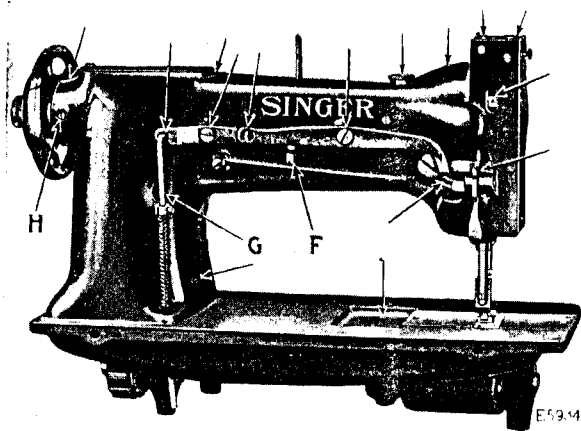
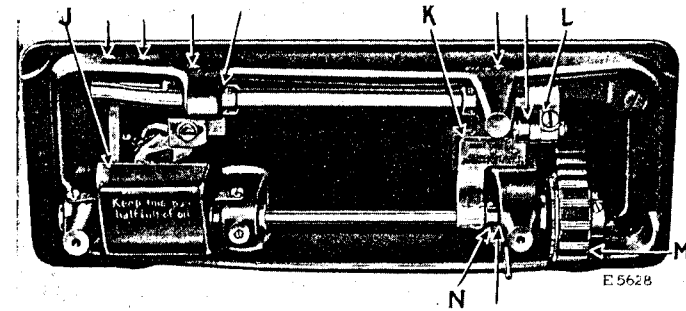

Fig. 14. Rear View of Machine, Showing Oiling Points
Fig. 15. Base of Machine, Showing Oiling Points
To increase the pressure, turn screw (F, Fig. 14) at the back of the machine, downwardly. To decrease the pressure, turn this screw upwardly.
Turn the machine back on its hinges and apply oil at the places designated by arrows as shown in Fig. 15, and all other
When the machine is received from the factory, half fill the oil pan (J, Fig. 15) with Singer Manufacturing Sewing Machine Oil. This oil should be changed at least once each week to ensure proper lubrication. Oil should also be applied at the top of the hook saddle from whence it will drop into the oil pan to lubricate the gears and shaft.
If the distance between the needle bar and presser bar is more or less than $\frac{1}{4}$ inch, insert a screwdriver in the hole (G, Fig. 14) at the rear of the machine and loosen the screw therein. While this screw is loose, the needle bar frame can be moved forward or backward, as may be required, until the distance between the needle bar and presser bar is $\frac{1}{4}$ inch. A piece of sheet metal $\frac{1}{2}$ inch wide may be used to determine the correct distance. When making this adjustment be sure to see that the feed regulating spindle head is set so that there is no feeding movement of the needle bar. When the adjustment has been made, securely tighten the screw at (G).
The feed dog should be set so that when the needle is down it should be slightly in front of the centre (toward the operator) of the needle hole. In case the needle does not enter the hole in the feed dog correctly, loosen the pinch screw (L, Fig. 15) and adjust the feed dog as required, then securely tighten the pinch screw (L).
Remove the face plate and needle bar rock frame, then loosen the clamp screw at (G, Fig. 14) and draw out the rock shaft.
Slide the connection belt off lower pulley (M, Fig. 15); remove the feed regulating spindle head and balance wheel; loosen the arm shaft bushing screw (H, Fig. 14) at the back of the arm and remove the bushing; lift the belt up through the arm cap hole as far as possible and draw it out through the space normally occupied by the bushing.
Owing to the fact that the sewing hook makes two revolutions to one revolution of the arm shaft, and that the feed lifting eccentric is on the hook shaft, it is possible to have the sewing hook correctly timed without having the feed correctly timed. To overcome this, the plate (K, Fig. 15) is attached to the underside of the bed of the machine. This plate is marked with an arrow at its lower end and directly alongside of the plate is the collar (N, Fig. 15) mounted on the hook shaft, which is also marked with an arrow. When replacing the belt, replace the arm shaft bushing and securely fasten it in position by the screw (H, Fig. 14) at the back of the machine; replace the feed regulating spindle head and the balance wheel, and place the belt on the upper pulley, and then turn the balance wheel over toward you until the thread take-up lever is at its highest point. Then turn the hook shaft with the fingers until the two arrows, one on plate "K" and the other on collar "N", are directly in line. Now, without disturbing either the arm shaft or the hook shaft, slip the belt over the lower pulley (M, Fig. 15). The feed will then be correctly timed with the needle bar.